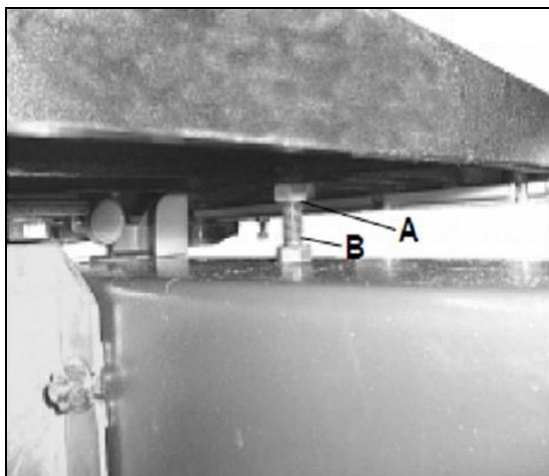

Fig 11
Loosen the nut (A, Fig 11), adjust bolt (B).